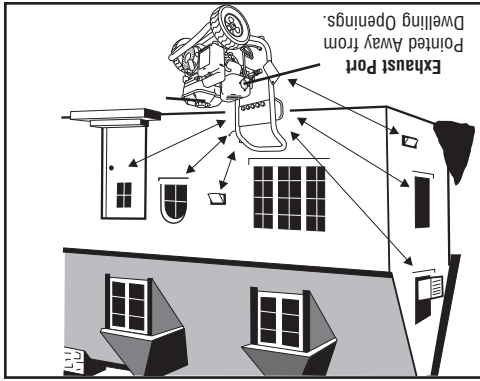

Figure 4
1. Move pressure washer outdoors to a flat, level surface. Running engines give off carbon monoxide. See Figure 4 for operating location.